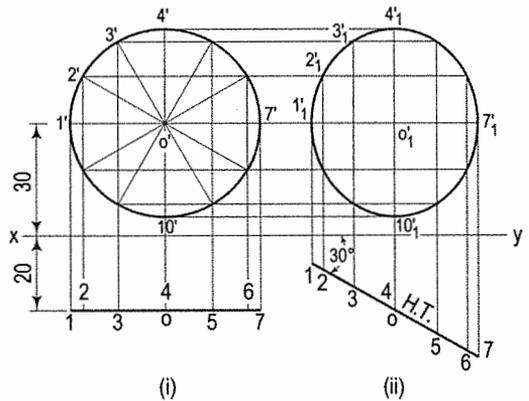

FIG. 12-11
Problem 12-5. (fig. 12-11): Draw the projections of a circle of 50 mm diameter, having its plane vertical and inclined at 30° to the V.P. Its centre is 30 mm above the H.P. and 20 mm in front of the V.P. Show also its traces.
- (i) Assuming the circle to be parallel to the V.P., draw its projections. The front view will be a circle [fig. 12-11(i)], having its centre 30 mm above xy . The top view will be a line, parallel to and 20 mm below xy .
- (iii) When the circle is tilted, so as to make 30° angle with the V.P., its top view will become inclined at 30° to xy . In the front view all the points will move along their respective paths (parallel to xy). Reproduce the top view keeping the centre o at the same distance, viz. 20 mm from xy and inclined at 30° to xy [fig. 12-11(ii)].